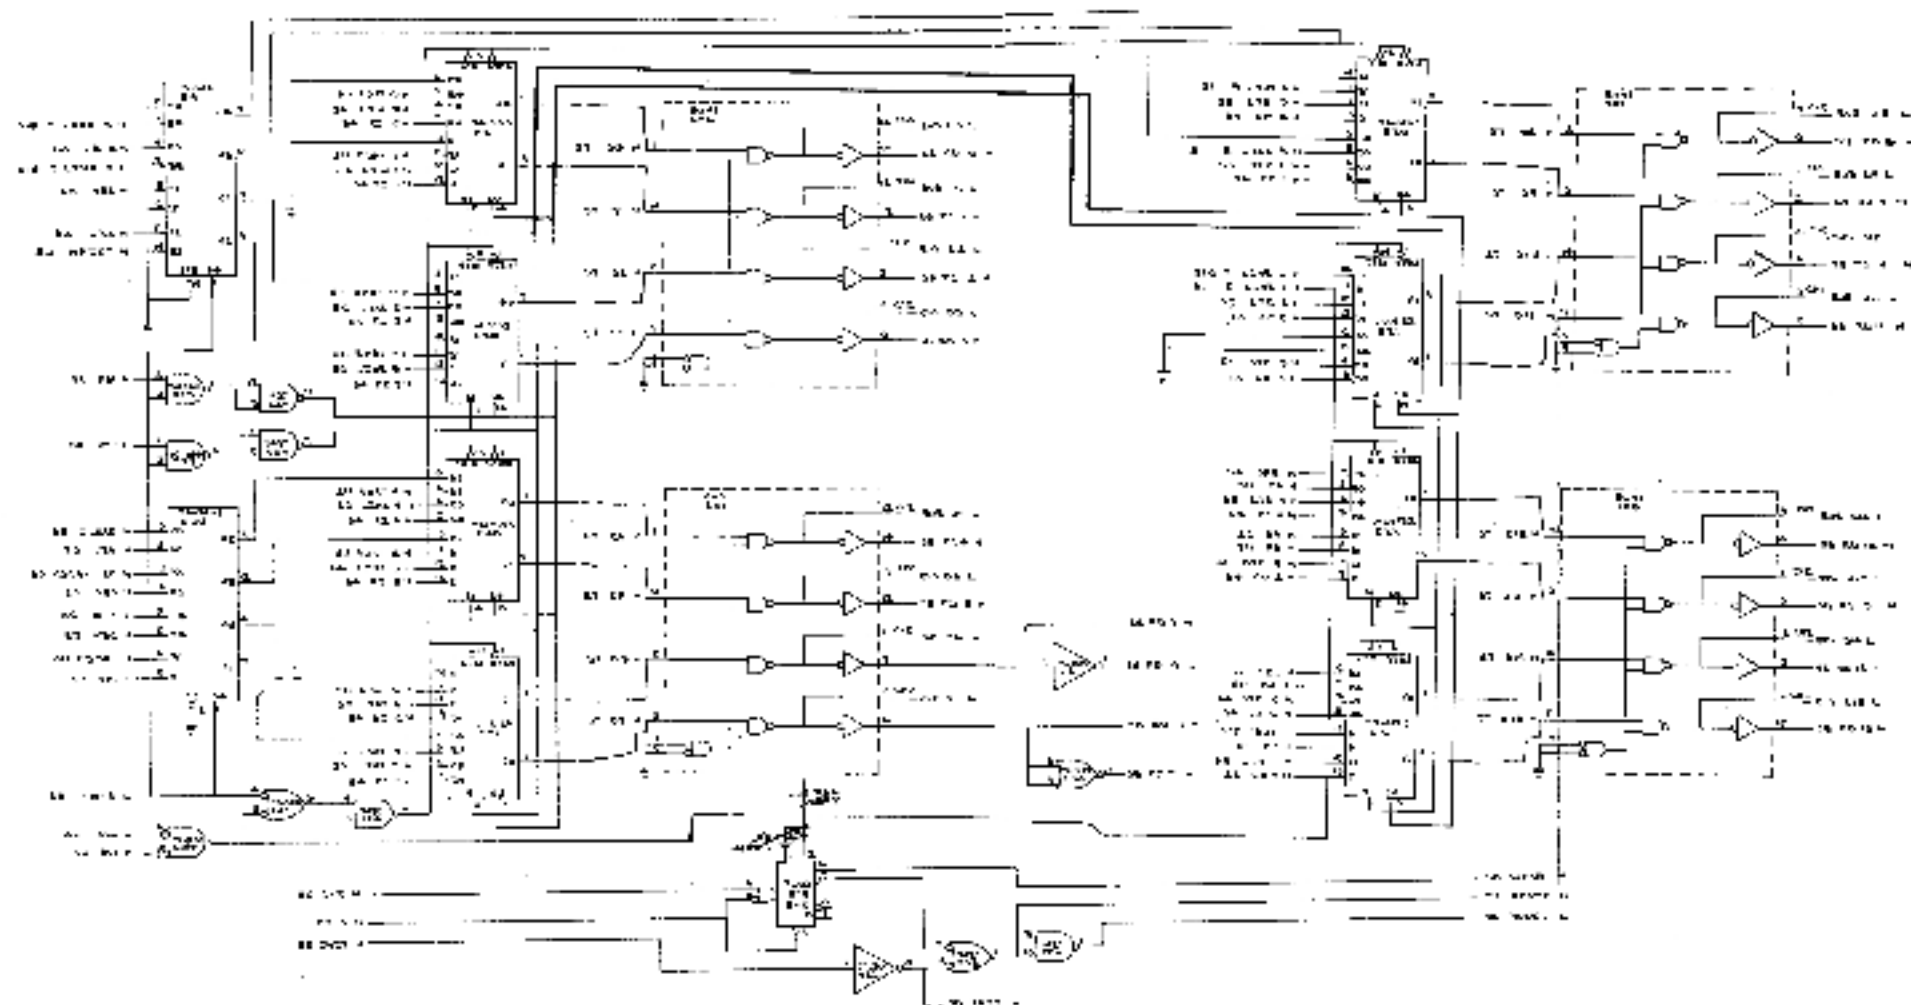

Figure 4-9 Unibus Data Flow
4.2.3 Data Transceivers and Output Multiplexers (Figure 4-9)